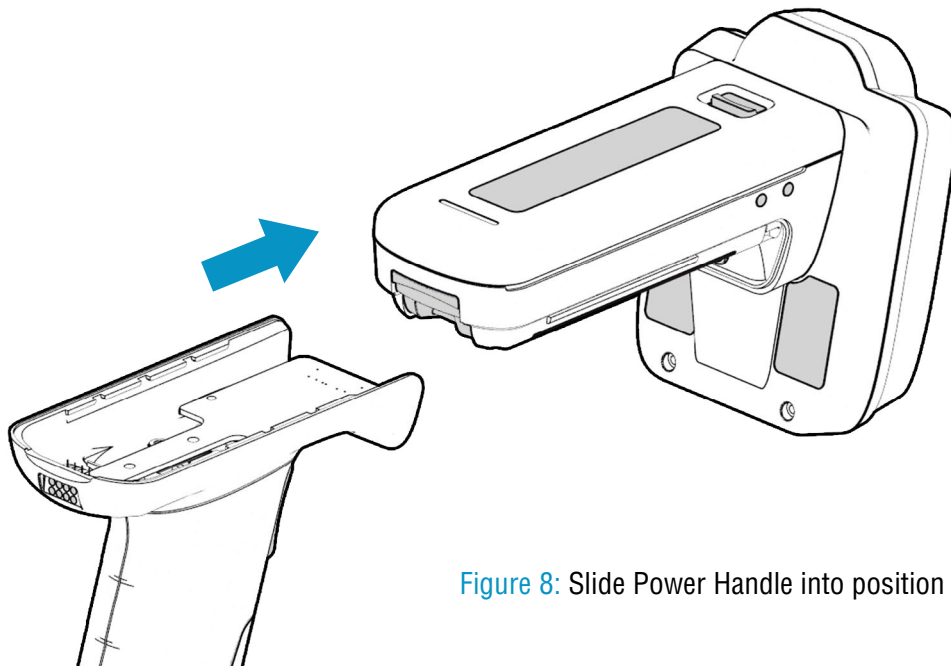

Figure 8: Slide Power Handle into position
2. Press on the Release Tab to lift the Power Bridge out of the main body of the reader (see “Figure 8: Slide Power Handle into position”)